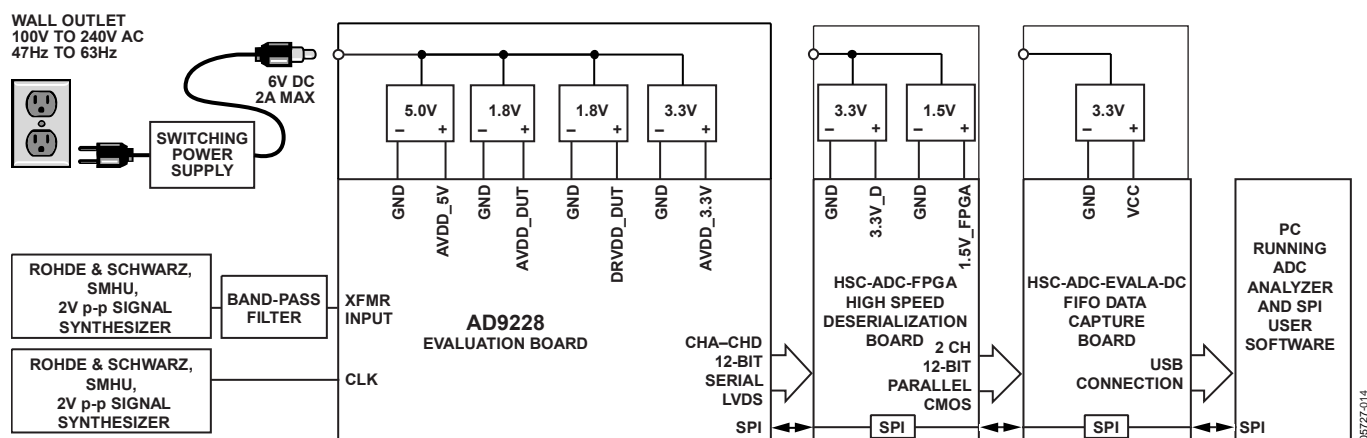
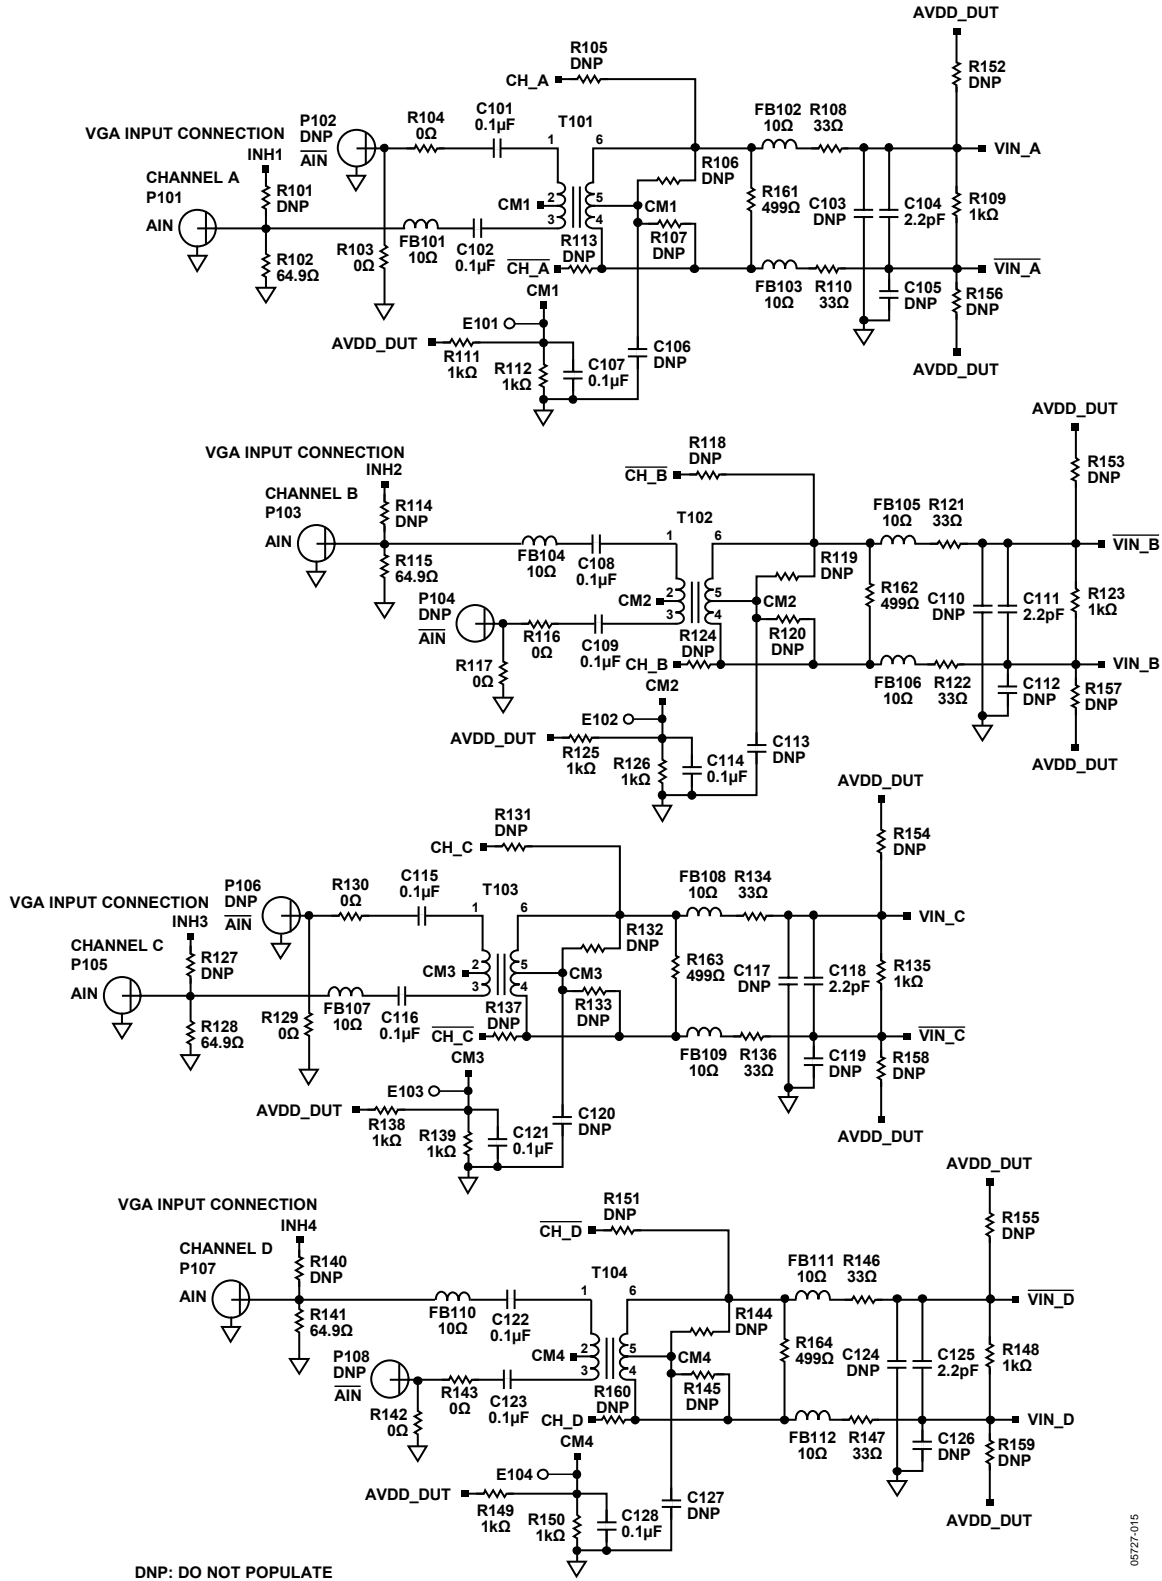
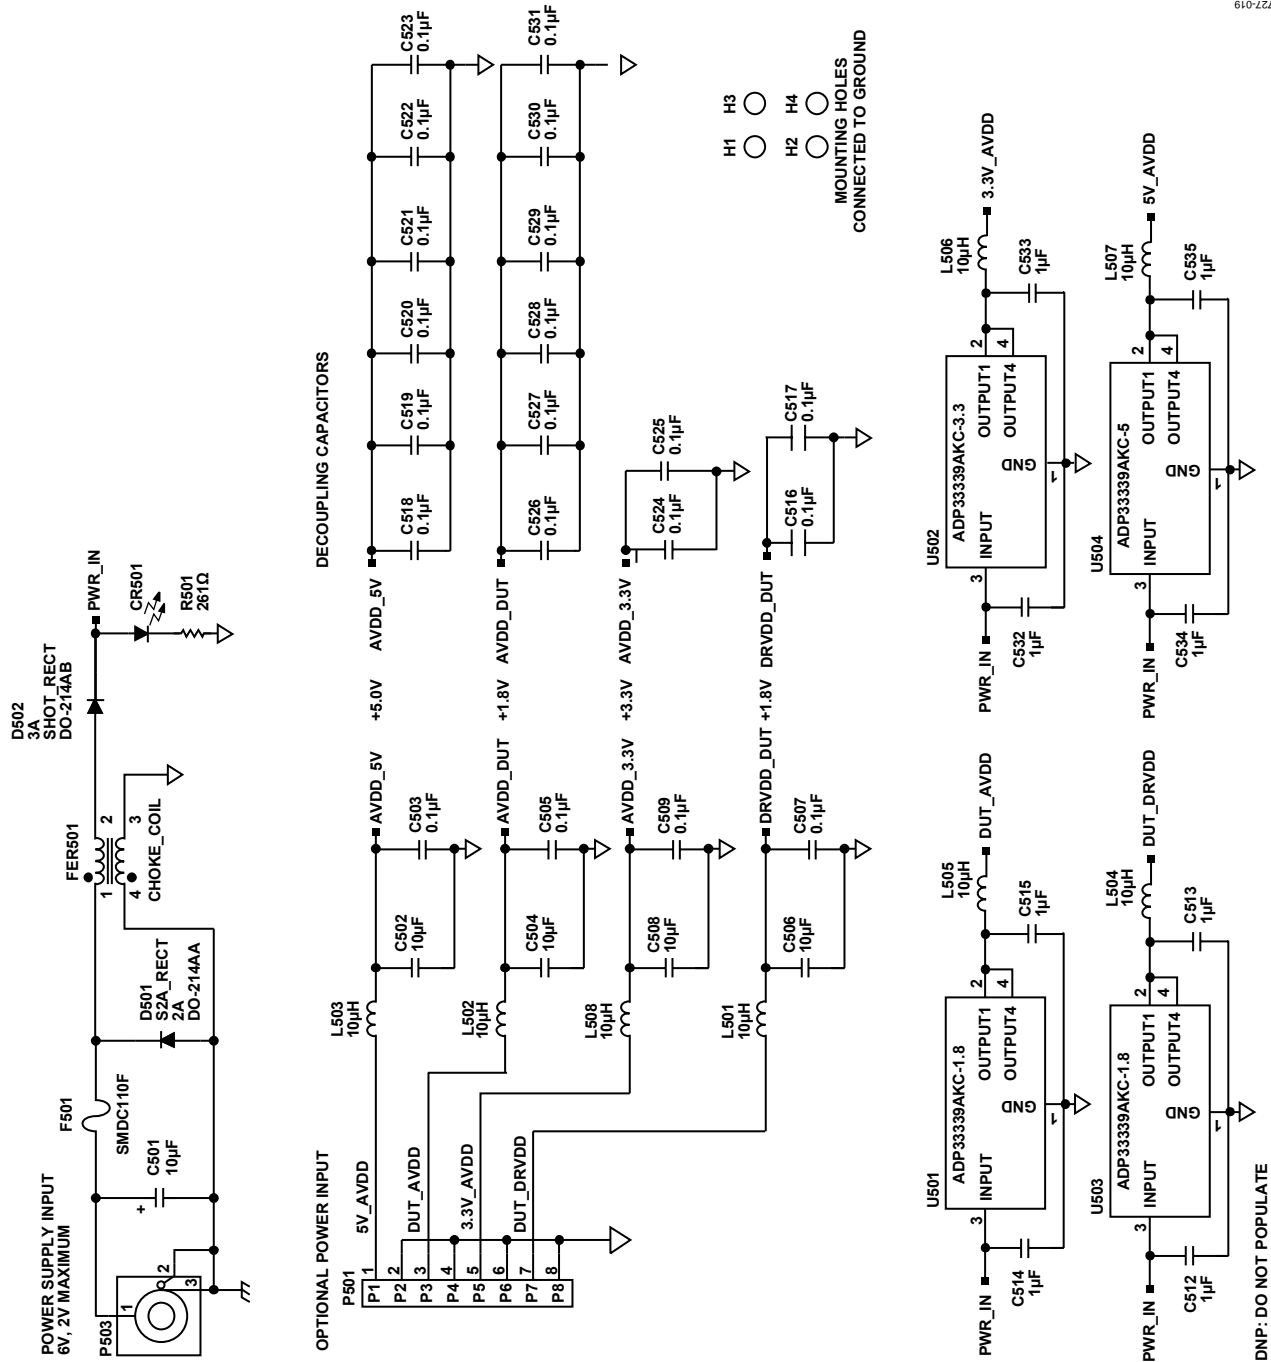
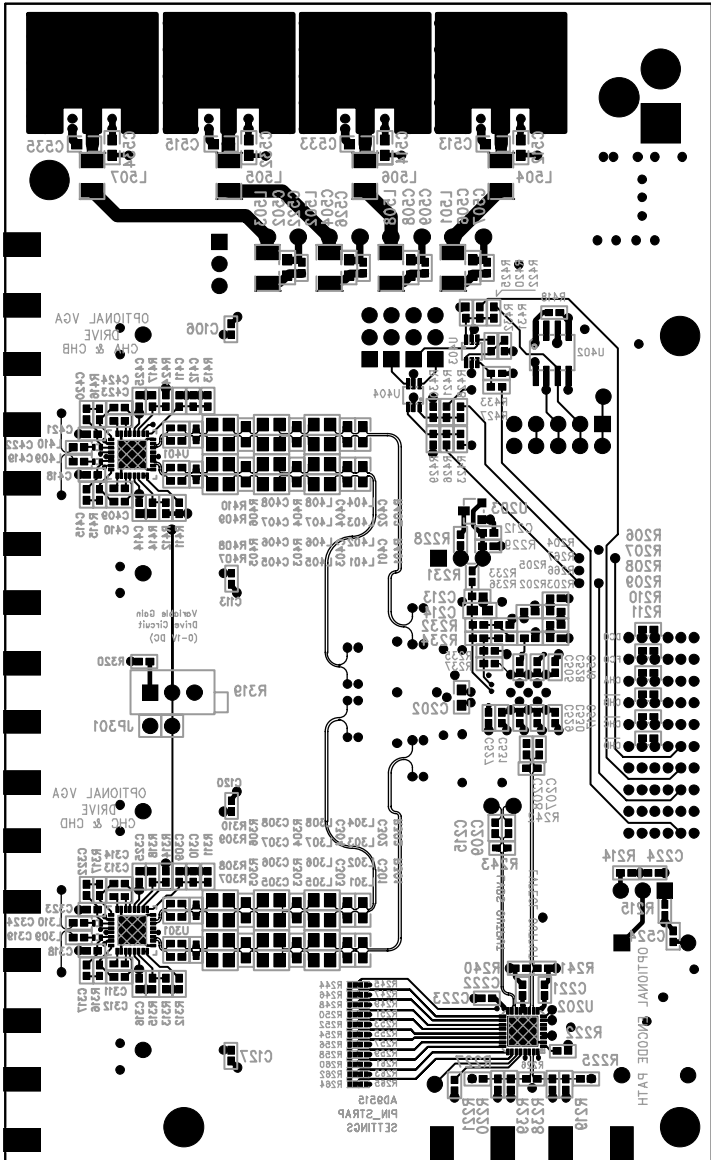

Figure 70. Evaluation Board Connection
Figure 72. Evaluation Board Schematic, DUT Analog Inputs
Figure 76. Evaluation Board Schematic, Power Supply Inputs
Figure 80. Evaluation Board Layout, Secondary Side (Mirrored Image)
The AD9228 evaluation board provides all of the support circuitry required to operate the ADC in its various modes and configurations. The converter can be driven differentially through a transformer (default) or through the AD8332 driver. The ADC can also be driven in a single-ended fashion. Separate power pins are provided to isolate the DUT from the AD8332 drive circuitry. Each input configuration can be selected by proper connection of various jumpers (see Figure 72 to Figure 76). Figure 70 shows the typical bench characterization setup used to evaluate the ac performance of the AD9228. It is critical that the signal sources used for the analog input and clock have very low phase noise (<1 ps rms jitter) to realize the optimum performance of the converter. Proper filtering of the analog input signal to remove harmonics and lower the integrated or broadband noise at the input is also necessary to achieve the specified noise performance.
See Figure 72 to Figure 80 for the complete schematics and layout diagrams that demonstrate the routing and grounding techniques that should be applied at the system level.
- **D+, D-:** If an alternative data capture method to the setup described in Figure 72 is used, optional receiver terminations, R206 to R211, can be installed next to the high speed back-plane connector.